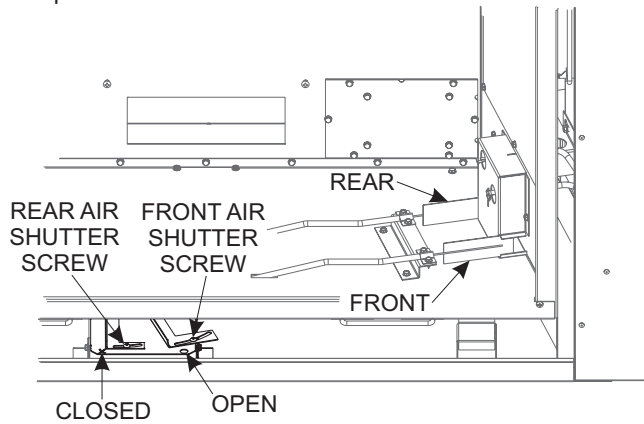

Figure 7
9. Loosen rear air shutter screw and rotate handle to the right until full open is achieved and tighten down screw (**Figure 7**).